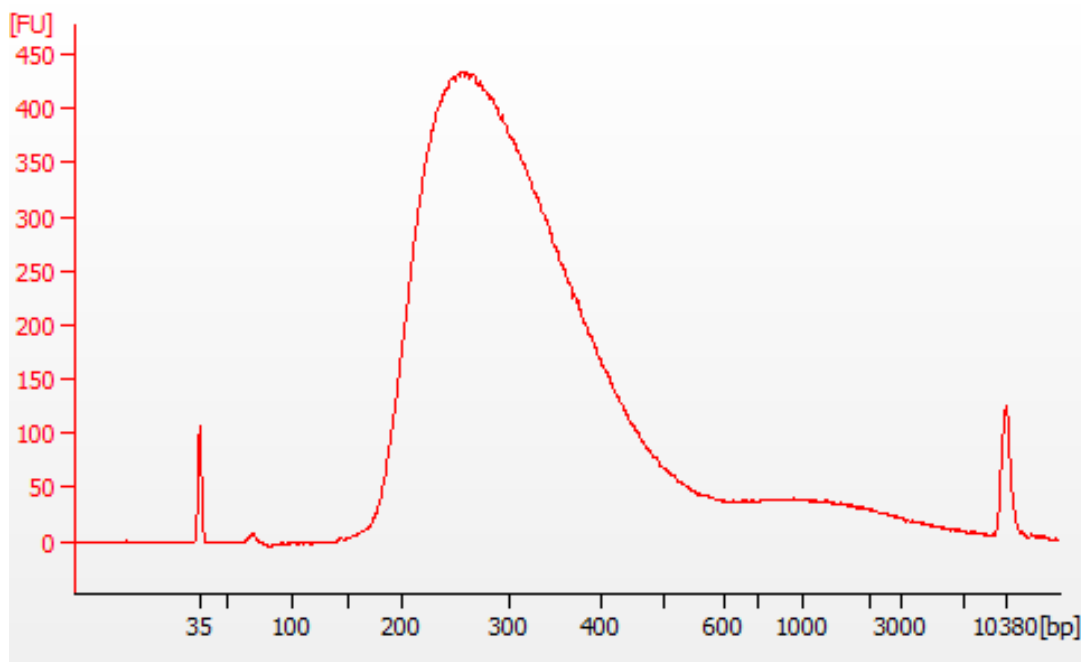
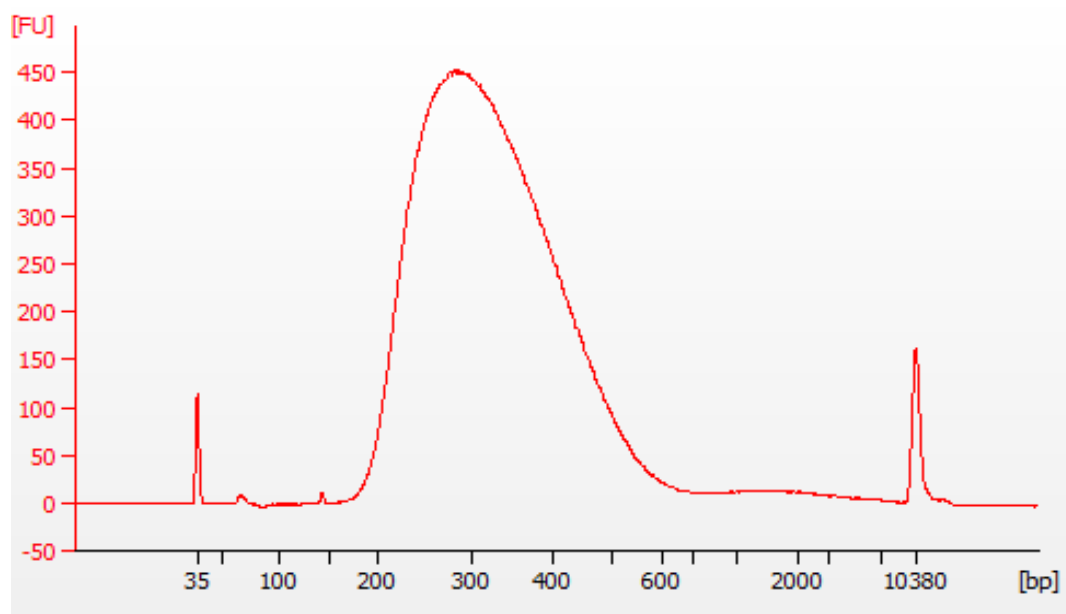

Figure 3: Example of an amplified KAPA HyperPlus sample library analyzed using the Agilent Bioanalyzer High Sensitivity DNA assay.
Figure 4: Example of an amplified KAPA HyperPrep sample library analyzed using the Agilent Bioanalyzer High Sensitivity DNA assay.
- Amplified Sample Libraries (pre-capture libraries) should have an average fragment size distribution at  $\sim 320$  bp (Figure 3, Figure 4) with a range setting at 150 to 1000 bp on the Bioanalyzer. Sharp peaks may be visible in the region  $<150$  bp. These peaks correspond to unincorporated primers, primer-dimers or carryover adapter-dimers and will not interfere with the capture process.